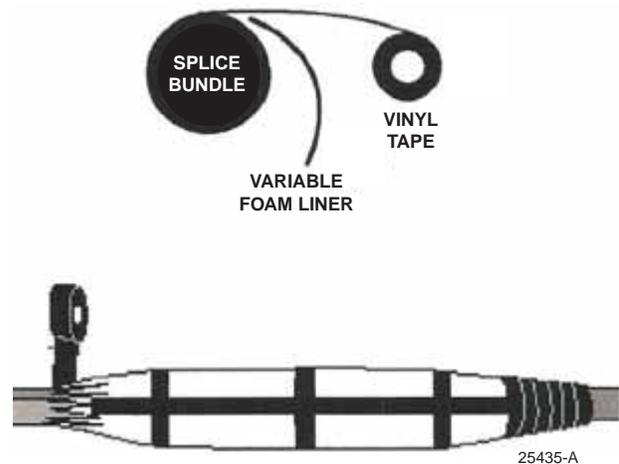

Figure 7
18. For a long closure with one variable foam liner with vinyl tape as shown. Refer to Figure 7.